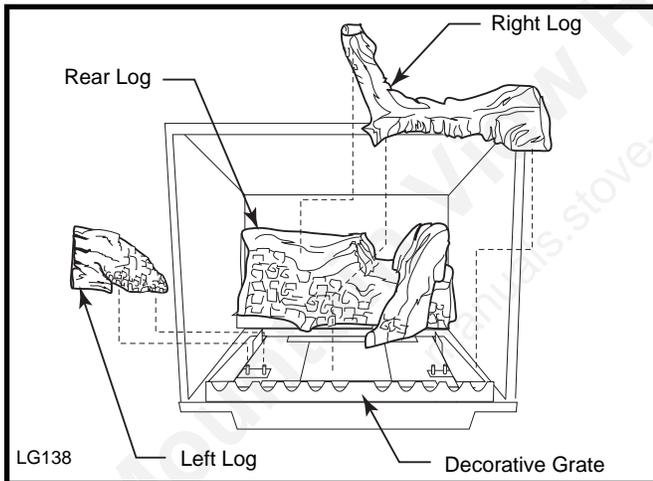

Fig. 51 Install back, right and left logs.
1. Install the rear log by centering it side to side on the sheet metal shelf at the back of the firebox. (Fig. 51) The log will touch both sides and back wall of the firebox.
2. Install the right log by placing right side of log on burner so it is just touching firebox side. Lay log flat on burner almost touching the decorative grate. Then tilt log back so that it leans against rear log. (Fig. 51) Only the topmost part of the left side of log will touch the rear log. The right log sits freely on the burner and does not use locator pins to stay in place.
3. Place left log on burner, making sure to engage locator pins in holes in bottom of the log. (Fig. 51) This log does not touch any other log.